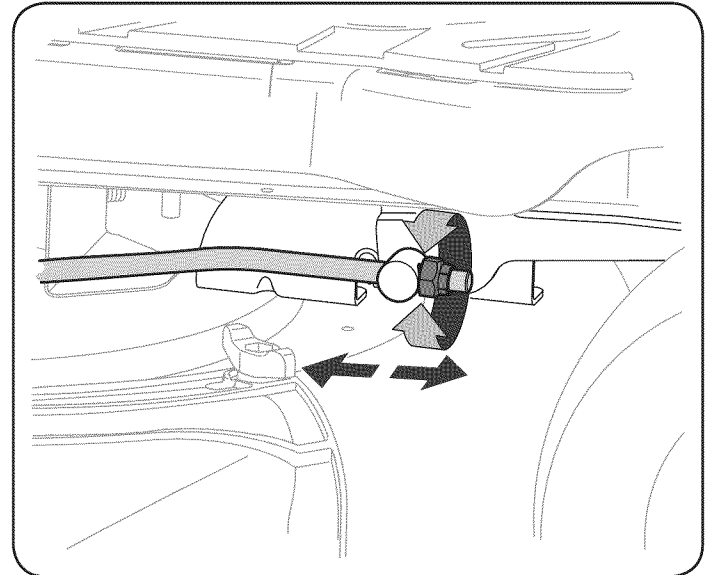

Figure 39
1. With the tractor parked on a firm, level surface, place the lever for lifting the cutting deck into the middle position (3) and rotate the blade so that it is aligned with the front and rear of the tractor.
3. Locate the flange lock nut on the front end of the PTO Lift Rod. See Fig. 39.